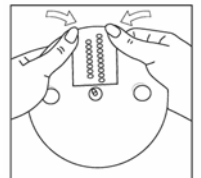

Fig. 11
- Press the other end of the blade until it clicks into place. (Fig. 11)